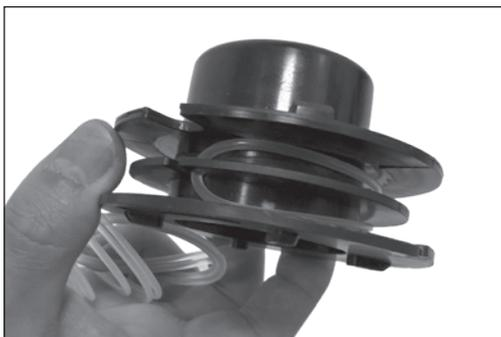

Fig.31
4. To install the new spool line – find the middle of the replacement line and hook into the insert point shown in Fig.31.